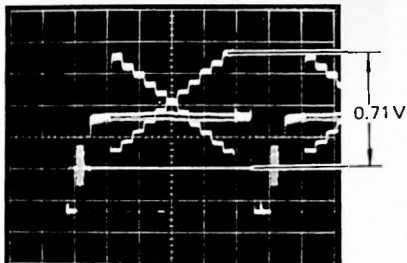

Fig. 4-4-25
- Adjust Y. GAIN VR217 for 0.71V from the blanking level to the top step of the gray scale waveform. (Fig. 4-4-25)